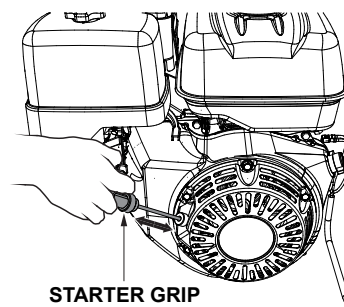

Figure 17. Starter Grip
5. Grasp the starter grip (Figure 17) and slowly pull it out. The resistance becomes the hardest at a certain position, corresponding to the compression point. Pull the starter grip briskly and smoothly for starting.